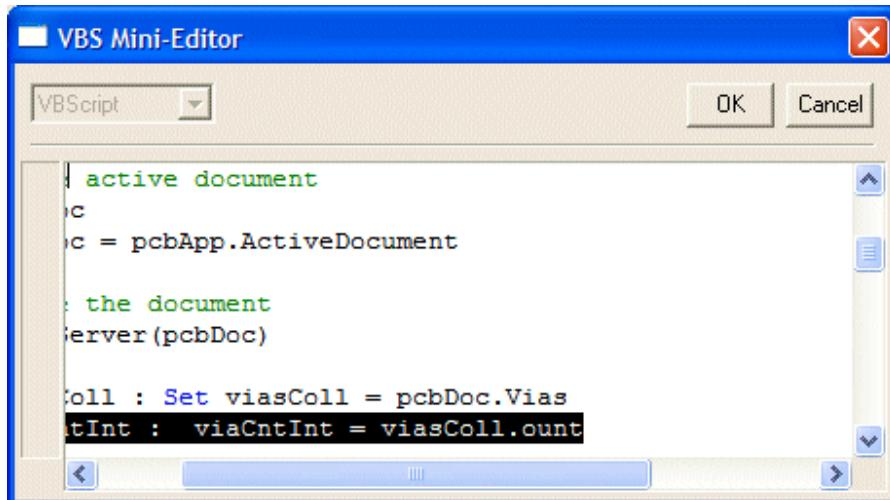

Figure 4-7. Using the VBS Mini-Editor to correct an error.
- 4) Click the **End** button to access the **VBS Mini-Editor**. This will take you to the statement containing the error and highlight that statement as illustrated in Figure 4-7.